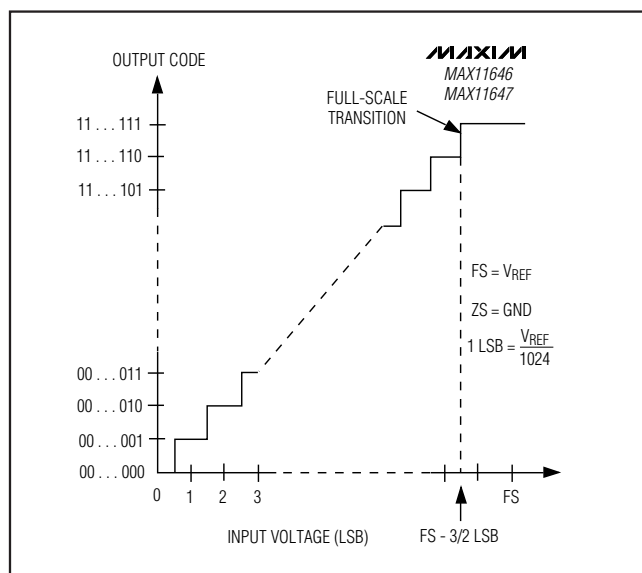

Figure 12. Unipolar Transfer Function
Output data coding for the MAX11646/MAX11647 is binary in unipolar mode and two's complement in bipolar mode with 1 LSB = ( $V_{REF}/2^N$ ) where N is the number of bits (10). Code transitions occur halfway between successive-integer LSB values. Figures 12 and 13 show the input/output (I/O) transfer functions for unipolar and bipolar operations, respectively.